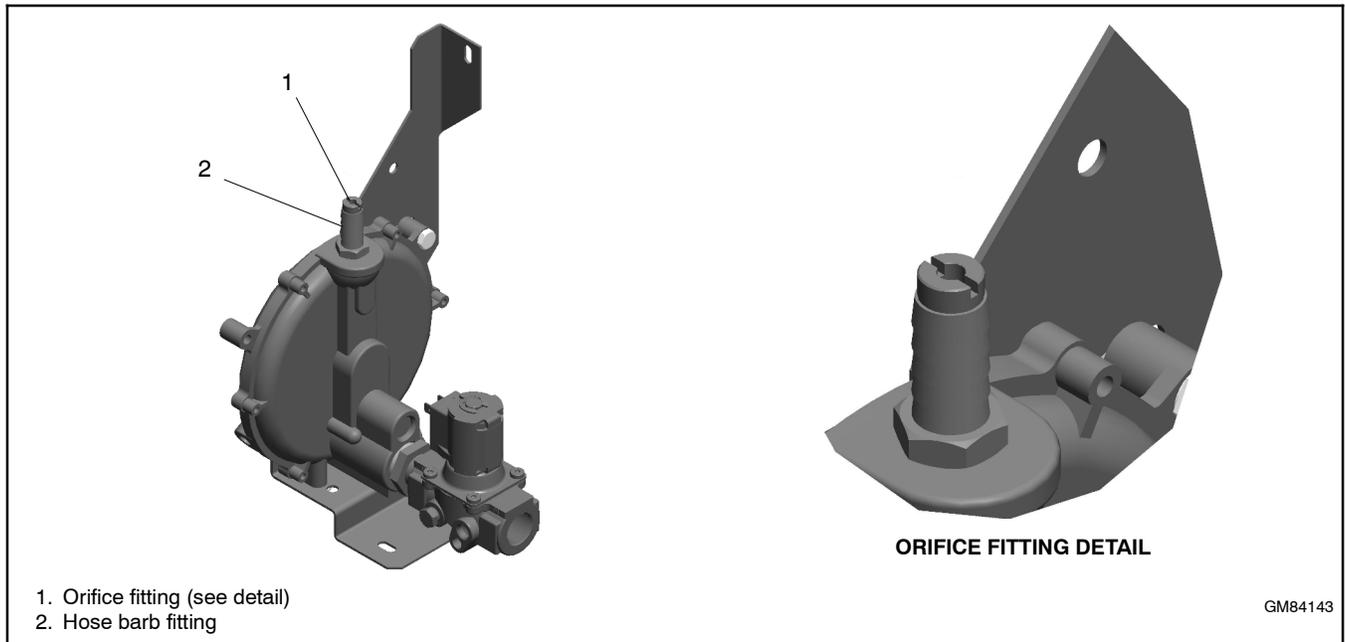

Figure 1-13 14RESA/RESAL Fuel System Showing Orifice Fittings (generators built after June 26, 2014)
6. Use a straight-blade screwdriver to remove the NG orifice from the hose fitting. See Figure 1-13.